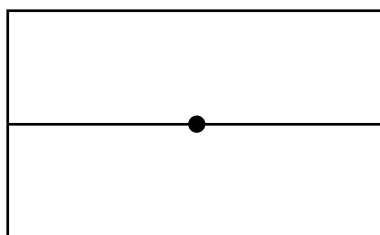

Fig. 2.4
- 3 The sheet of A4 paper is shown in Fig. 2.4.